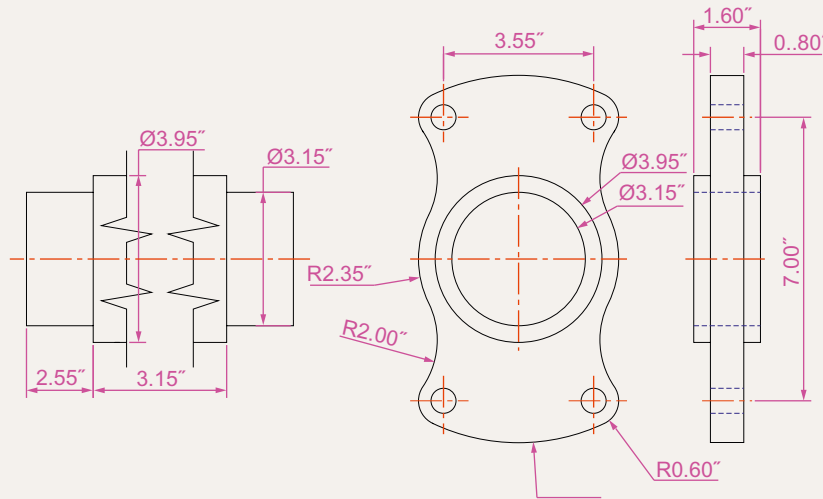

Fig. 19.18 Exercise 1 – details of shapes and sizes
1. Working to the shapes and sizes given in Fig. 19.18, construct an assembled 3D model drawing of the spindle in its two holders, add lighting and apply suitable materials and render (Fig. 19.19).